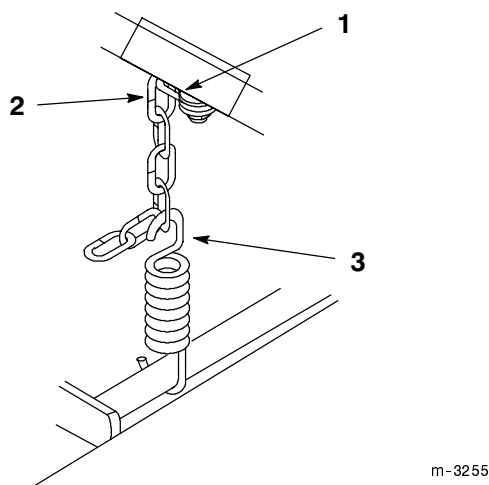

Figure 41
2. Hook spring into recommended link (Fig. 41).